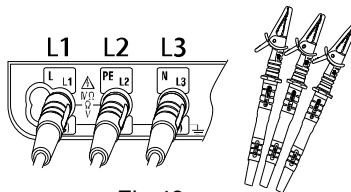

Fig.43
2. Umetnite test pipalice u instrument. (Fig.43)